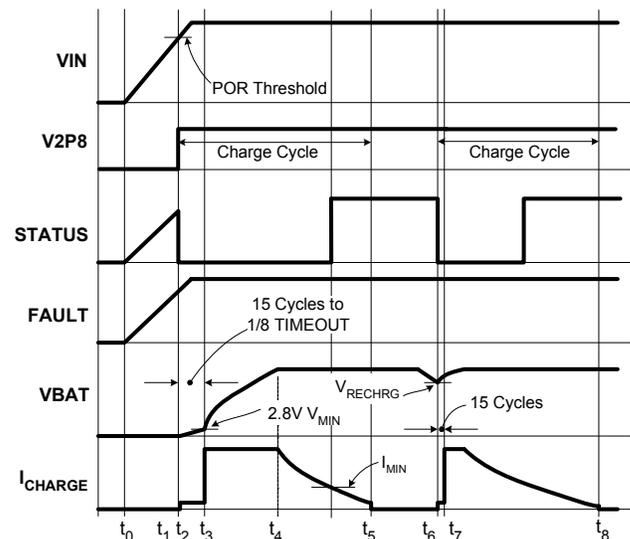

FIGURE 19. OPERATION WAVEFORMS
Figure 19 illustrates the typical signal waveforms for the linear charger from the power-up to a recharge cycle. More detailed Applications Information is given in the following.
The two indication pins, STATUS and FAULT, indicate a LOW and a HIGH logic signal respectively. Figure 19 illustrates the start-up of the charger between t_0 to t_2 .
A charge cycle consists of three charge modes: trickle mode, constant current (CC) mode, and constant voltage (CV) mode. The charge cycle always starts with the trickle mode until the battery voltage stays above V_{MIN} (2.8V typical) for 15 consecutive cycles of the internal oscillator. If the battery voltage drops below V_{MIN} during the 15 cycles, the 15-cycle counter is reset and the charger stays in the trickle mode. The charger moves to the CC mode after verifying the battery voltage. As the battery-pack terminal voltage rises to the final charge voltage V_{CH} , the CV mode begins. The terminal voltage is regulated at the constant V_{CH} in the CV mode and the charge current is expected to decline. After the charge current drops below I_{MIN} (programmable for the 4x4 and 5x5 package and programmed to 1/10 of I_{REF} for the 3x3 package; see "End-of-Charge (EOC) Current" on page 13 for more detail), the ISL6292 indicates the end-of-charge (EOC) with the STATUS pin. The charging actually does not terminate until the internal timer completes its length of TIMEOUT in order to bring the battery to its full capacity. Signals in a charge cycle are illustrated in Figure 19 between points t_2 to t_5 .
After a charge cycle completes, charging is prohibited until the battery voltage drops to a recharge threshold, V_{RECHRG} (see “Electrical Specifications” on page 3). Then a new charge cycle starts at point t_6 and ends at point t_8 , as shown in Figure 19. The safety timer is reset at t_6 .
The trickle mode charge has a time limit of 1/8 TIMEOUT. If the battery voltage does not reach V_{MIN} within this limit, a TIMEOUT fault is issued and the charger latches up. The charger stays in trickle mode for at least 15 cycles of the internal oscillator and, at most, 1/8 of TIMEOUT, as shown in Figure 19.
The end-of-charge current I_{MIN} sets the level at which the charger starts to indicate the end of the charge with the STATUS pin, as shown in Figure 19. The charger actually does not terminate charging until the end of the TIMEOUT, as described in “Total Charge Time” on page 12. The I_{MIN} is set in two ways, by connecting a resistor between the IMIN pin and ground, or by connecting the IMIN pin to the V2P8 pin. When programming with the resistor, the I_{MIN} is set in Equation 6.